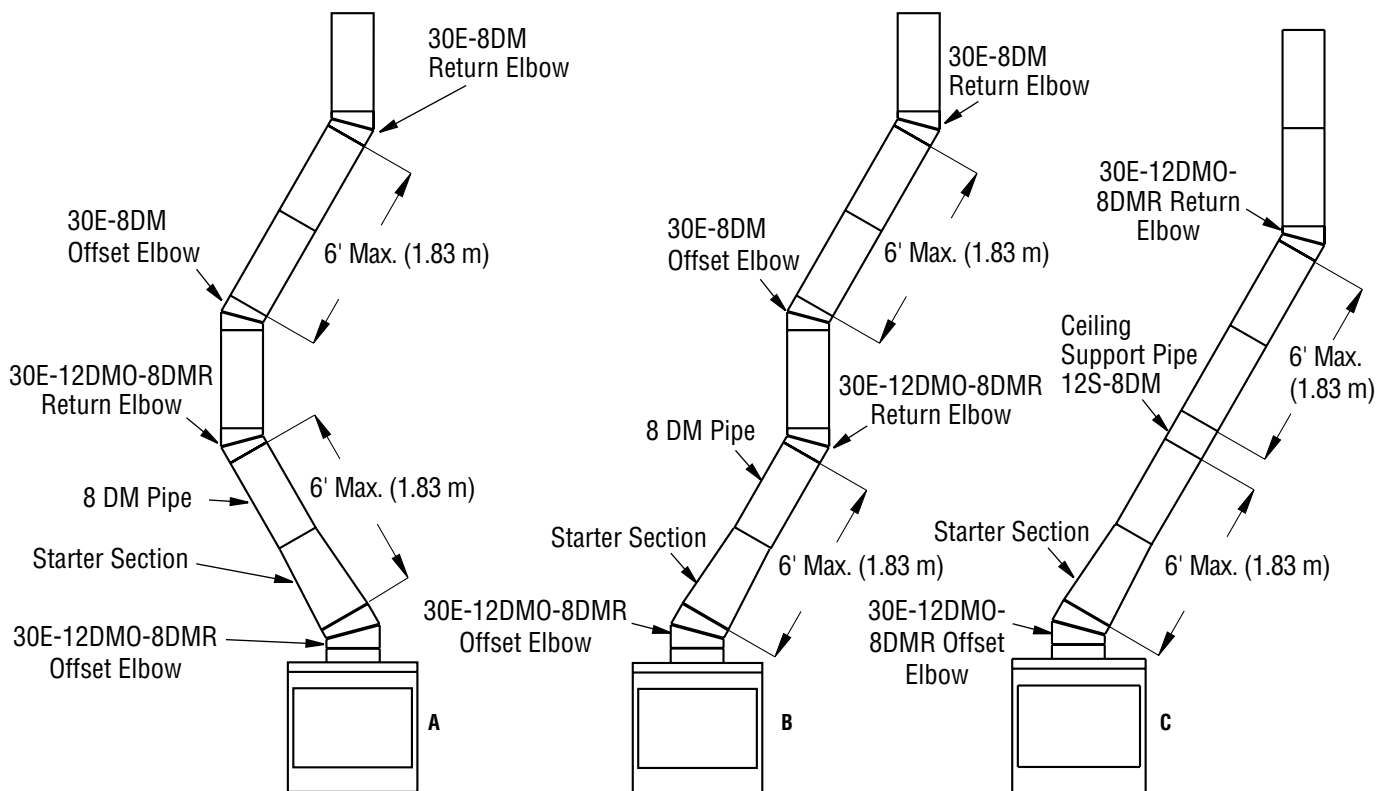

Figure 7 - Typical Offset Installation
3. Maximum length of pipe between supports (return elbow or 12S-8DM) is 6' of angle run. Maximum of two 6' angle run sections per chimney system (see Figure 7).